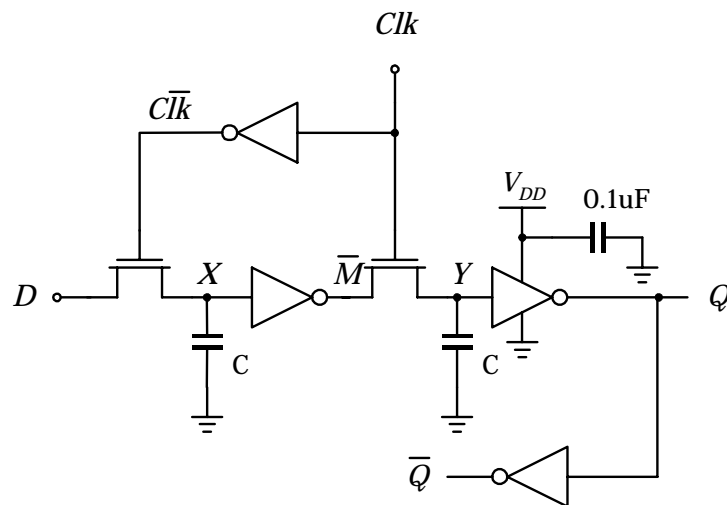
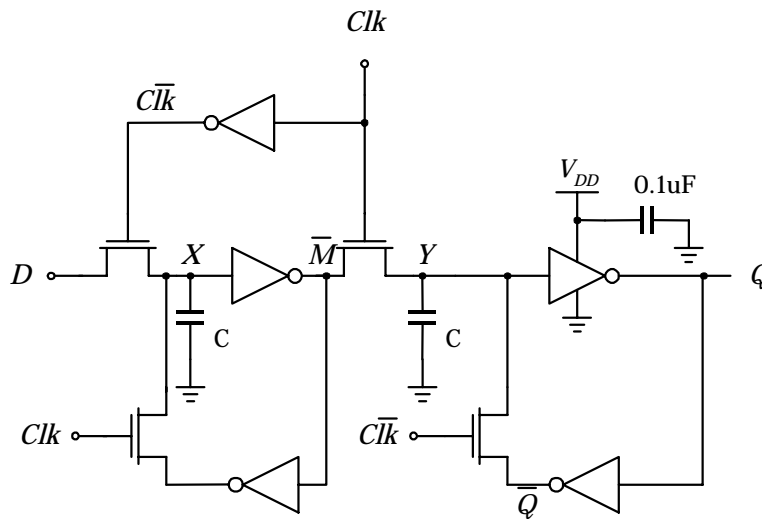

Figure 1.
Figure 2.
- (1) Add the extra circuitry shown in Figure 2 that will convert the dynamic master-slave latch in Figure 1 to a static master-slave latch. Remember to connect pin 14 of CD4007 to +15V and pin 7 to Gnd.
- (2) Verify that the circuit operates as a master-slave latch by connecting the D input to the \bar{Q} output. Use a 10kHz square-wave that goes from 0 to 10V for the clock (CLK). Use C = 1000p. Sketch the CLK, \bar{M} and Q waveforms and measure the delay between the rising edge of the clock and output Q. At what part of the clock waveform is the D input latched? Increase the CLK frequency and measure the delay between the rising edge of the clock and output Q at each CLK frequency. At what CLK frequency the master-slave latch fail?
- (3) Tie the D input low. Use $C = 1000\text{pF}$. Slow the clock to the same frequency recorded in Step (5) above. Do you see droop at node Y? Try a lower frequency. Do you see droop at node Y? Try $C = 10\text{pF}$. Do you see droop at node Y? Why or why not?
- (4) What are the advantages and disadvantages of the static master-slave latch?